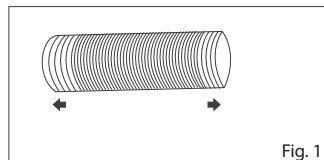
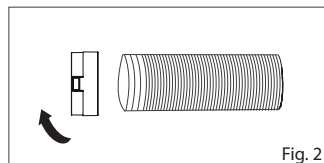

Fig. 1
Fig. 2
1. Extend either side of the hose (Fig.1) and screw the hose inlet (Fig.2).